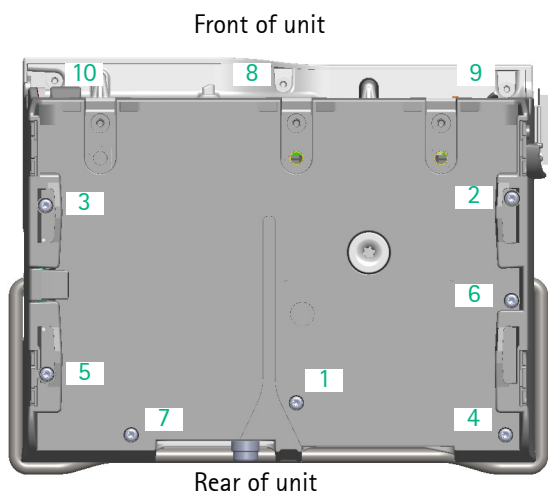

Fig. 3 - 17 Sequence of screwing
5. Tighten the screws of the housing and the housing front with a torque of  $0.8 \text{ Nm} \pm 0.08 \text{ Nm}$  (first and second screwing) following the sequence given in Fig. 3 - 17.